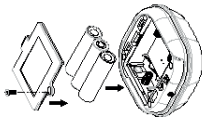

FIGURE 3
3. Insert 3 AA-size 1.5V alkaline batteries into the battery compartment, ensuring correct polarity is followed (FIGURE 3).